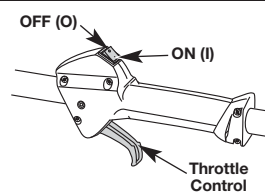

Fig. 4
NOTE: There is no need to turn the unit on. The On/Off Control is in the ON (I) position at all times (Fig. 4).
2. Press and hold the On/Off Control switch in the **OFF (O)** position until the unit comes to a complete stop (Fig. 4).